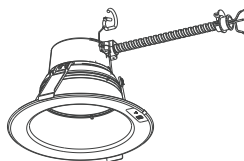

Figure 4-2
2. Attach the test indicator to the fixture surface using the self-contained double-sided sticker (Figure 4-2).